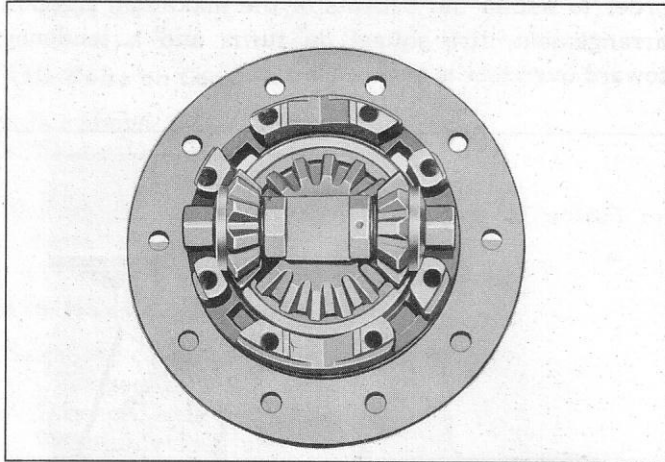

Fig. 40—Installing Mate Shaft
3. With the ring gear case half of the differential case in a vertical position, install one mate shaft and gears as shown in Fig. 40. Make certain that notch in shaft is up, and shaft is 90° from "V" notches in case.